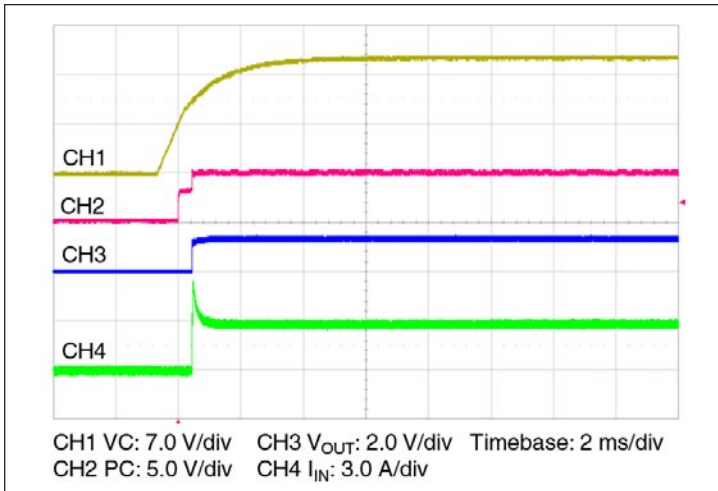

Figure 11 – Start up from application of VC; VIN pre-applied
**Current Monitor (IM)** pin provides a voltage proportional to the output current of the VTM module. The nominal voltage will vary between 0.07 V and 0.61 V over the output current range of the VTM module (See Figures 11–13). The accuracy of the IM pin will be within 25% under all line and temperature conditions between 50% and 100% load.
- Stand-alone operation (VC applied after VIN): In this case the VTM module output will begin to rise upon the application of the VC voltage (See Figure 11). The Adaptive Soft Start Circuit (See Section 11) may vary the output rate of rise in order to limit the inrush current to its maximum level. When starting into high capacitance, or a short, the output current will be limited for a maximum of 120 µ/sec. After this period, the Adaptive Soft Start Circuit will time out and the VTM module may shut down. No restart will be attempted until VC is re-applied or PC is toggled. The maximum output capacitance is limited to 64400 µF in this mode of operation to ensure a successful start.